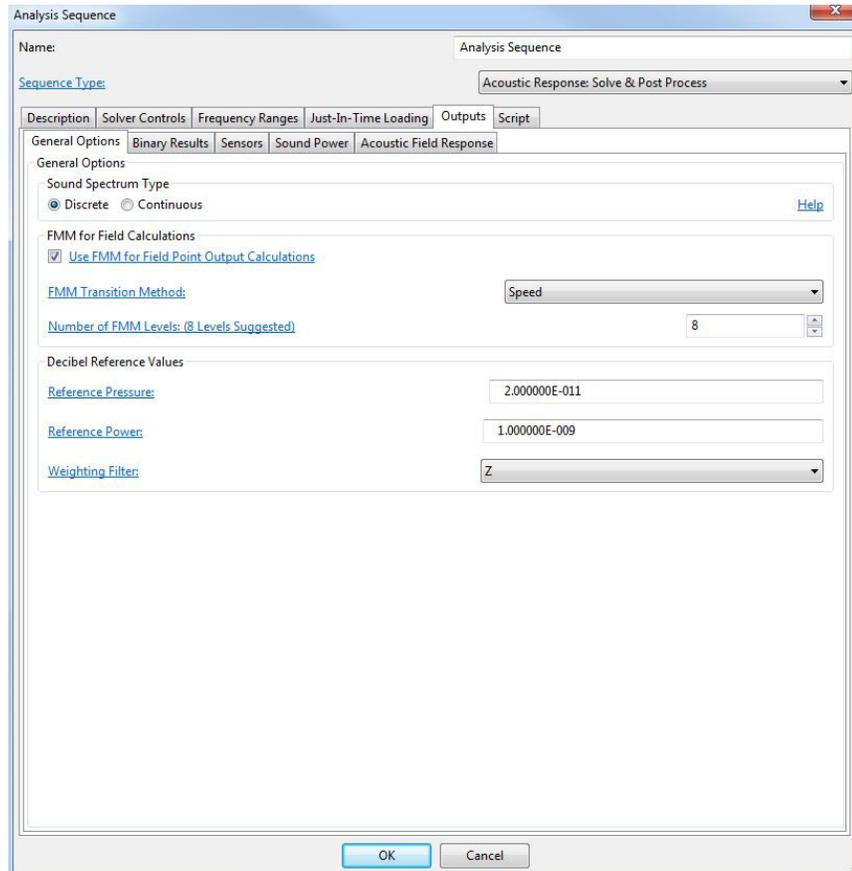

Figure 7.30 General Options window.
The **General Options** tab is shown in Figure 7.30. It allows users to set some common attributes that dictate how various outputs are computed. Set the following in this tabbed window: **Sound Spectrum Type**, whether or not to use **FMM for Field Calculations** or set the **Decibel Reference Values**.
**7.3.2.1. Create a Binary Results File** This option is selected to save the solution state at the end of each analysis frequency. The binary file could later be read using a *Coustyx* function to recreate the solution state. Figure 7.30.